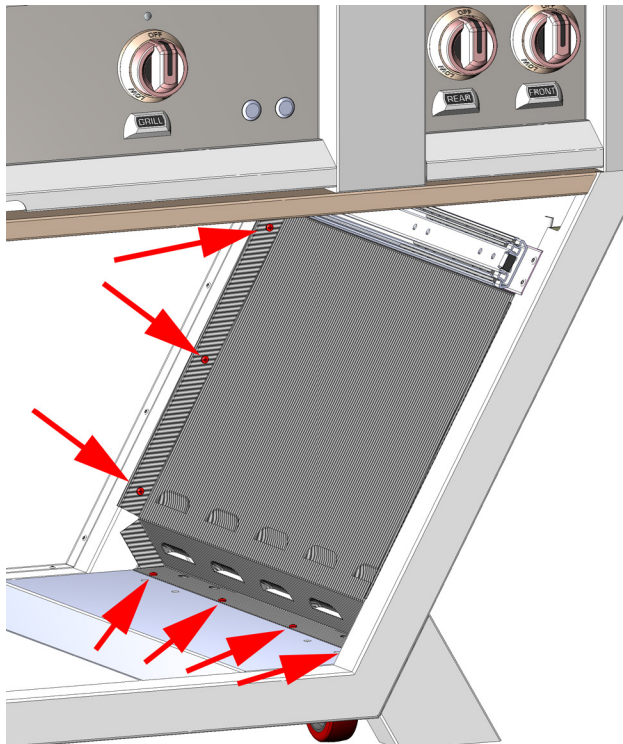

FIG. 6
6. When viewed from the front, remove 7 screws shown in Fig. 6.